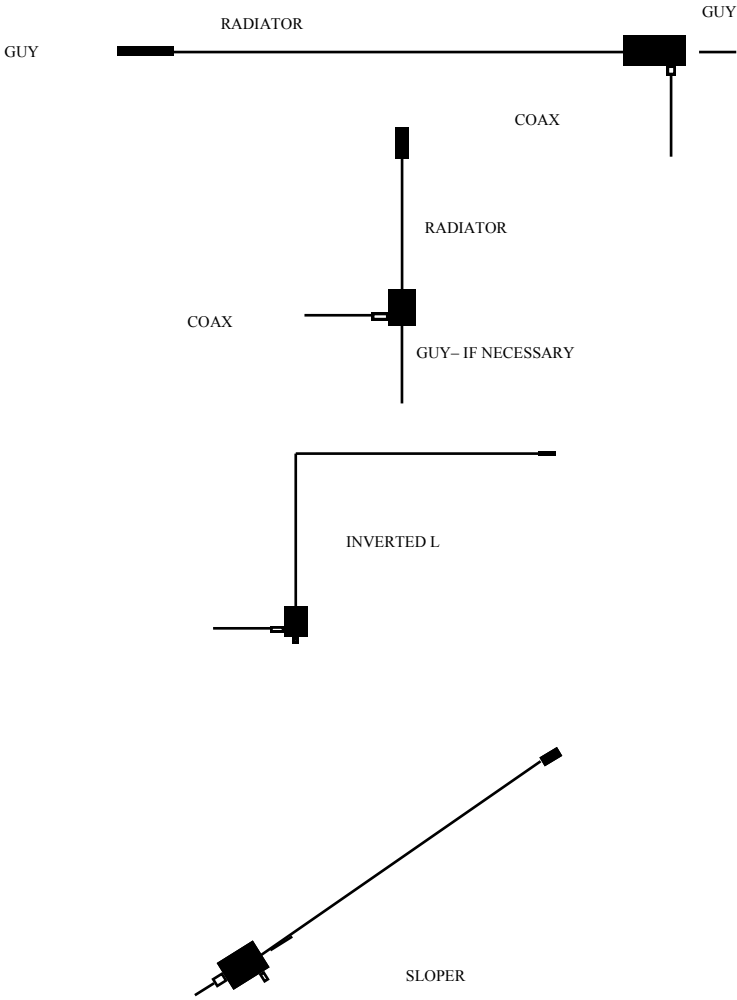

Fig. 3
9. Fig. 3 illustrates some mounting ideas.